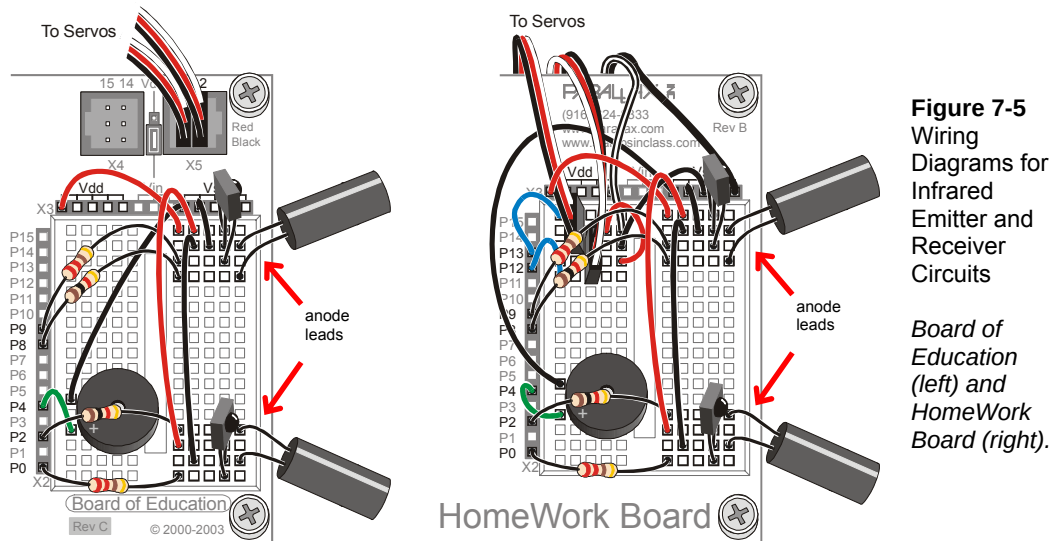

**Figure 7-4**
One IR pair (IR LED and detector) is mounted on each corner of the breadboard. Figure 7-4 shows the IR headlights circuit as a schematic and Figure 7-5 shows the circuit as a wiring diagram.
- ✓ Build the circuit shown by the schematic in Figure 7-4, using the wiring diagram for your board in Figure 7-5 as a reference for parts placement.